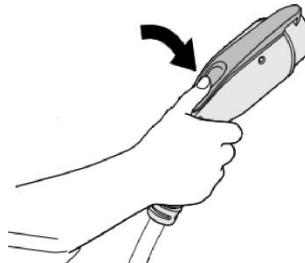

Fig. 6-13 Plug into EV socket
- As shown in Fig 6-13, plug the charging connector into the AC charging socket of the EV.